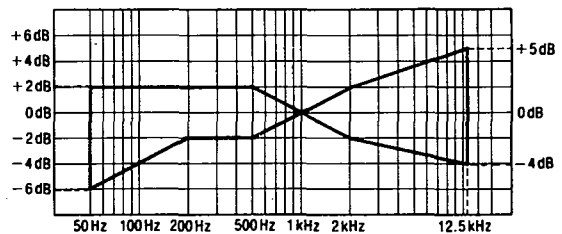

Fig. 13
5. Repeat steps 3 and 4 above for CrO₂ blank test tape (QZZCRX1) and Metal blank test tape (QZZCRZ5), in these cases raising the upper end of the test signal frequency range to 12.5kHz. Verify that the signal levels at the test frequencies fall in the ranges specified in Fig. 13 with respect to the reference signal level.